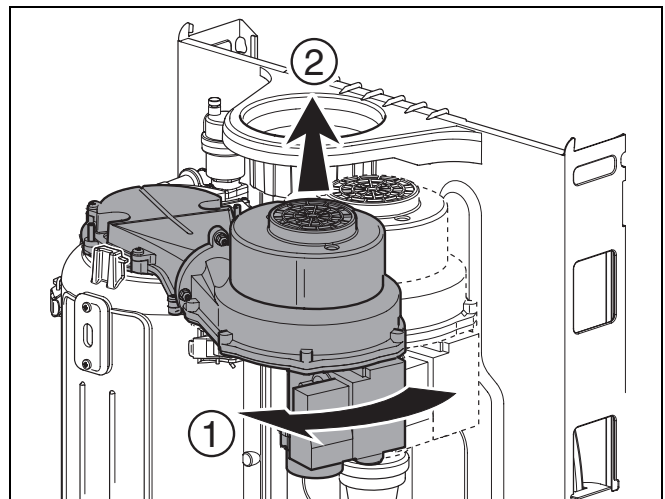

fig. 61 Remove gas air unit
- By turning the unit a quarter turn (fig. 61, step 1), the unit can be removed by lifting it out of the boiler (fig. 61, step 2).